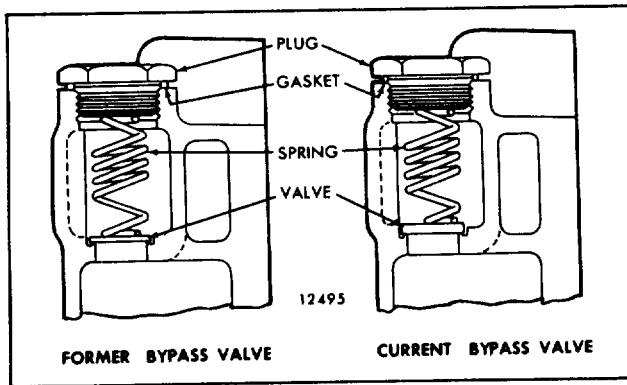

Fig. 3- Bypass Valve
5. Reassemble and install the bypass valve. Use only the current bypass valve and spring for service (Fig. 3). The current thicker valve and stiffer spring increase the bypass pressure from 13-18 psi to 18-21 psi (90-124 kPa to 124-145 kPa) to permit more efficient filtration. Tighten the 1 1/4"-16 bypass valve plug to 95-105 lb-ft (129-143 N•m) torque.
Refer to Fig. 3 and install the lubricating oil cooler as follows: